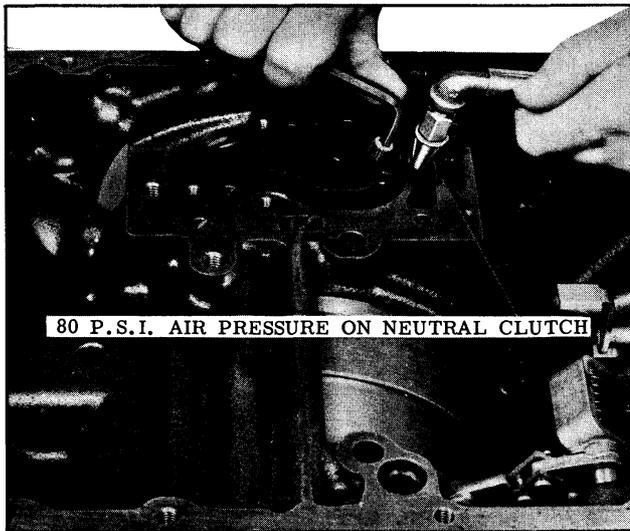

Fig. 3-146 Tightening Front Pump Locating Screw
16. While applying approximately 80 P.S.I. air pressure to the neutral clutch passage, tighten front pump locating screw. (See Fig. 3-146). Torque 10 to 13 ft. lbs.